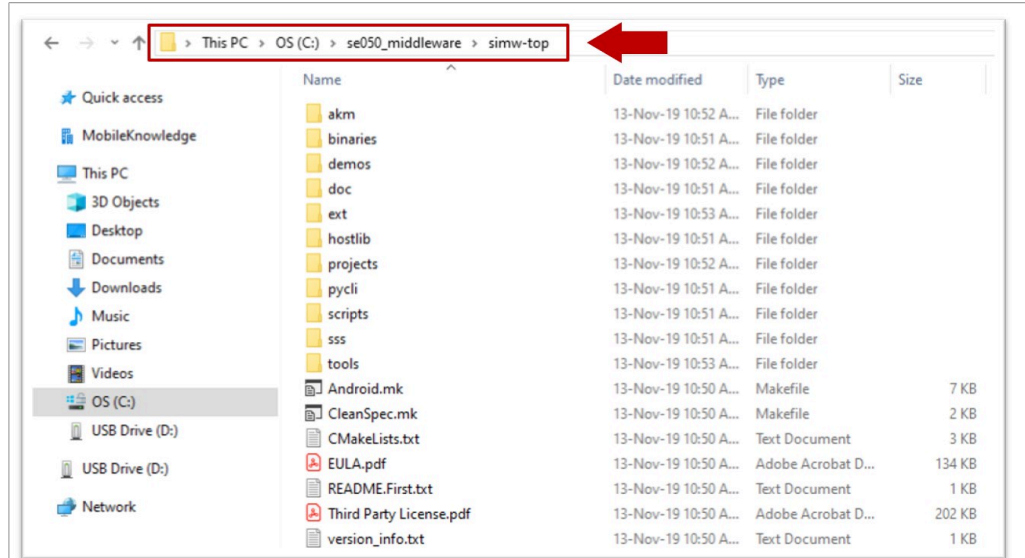

Figure 28. Unzip se050 middleware
- Unzip SE050 middleware inside the **se050\_middleware** folder. The unzipped package **simw-top** should look like as shown in Figure 28: